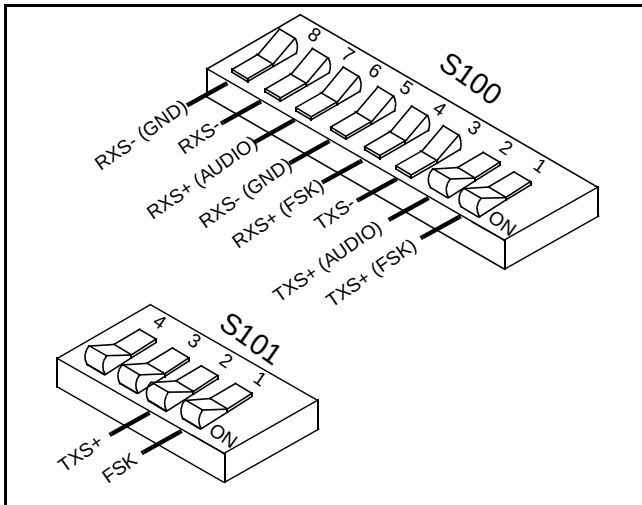

Figure 6-13 Old HSDB Switch Settings
1. **On the MPC** set switch settings for single-ended 5V (old style) operation are shown in Figure 6-13.